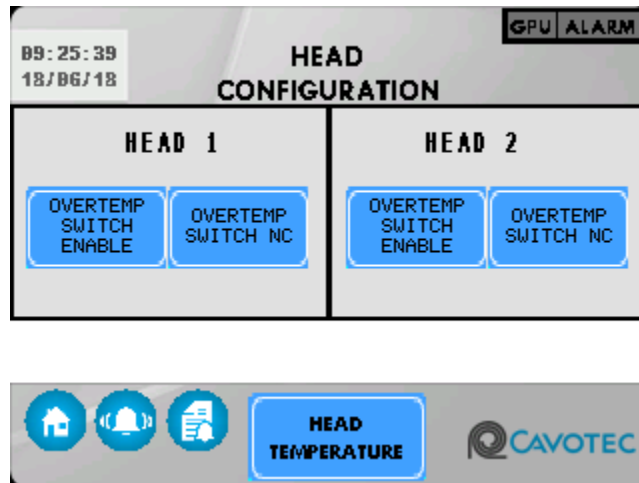
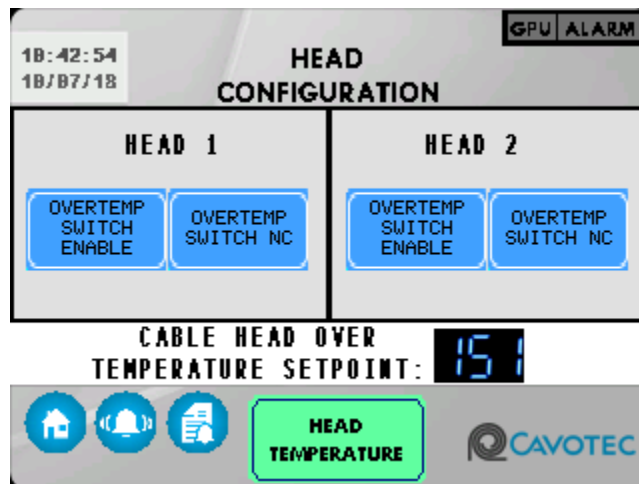

Figure 3-56. Cable Head Configuration Screen
Figure 3-57. Cable Head Configuration with Head Temperature Screen
The head configuration screen is shown in Figure 3-56. The switch configuration menu allows the user to configure the unit for an over temperature switch in the cable head. The over temperature switch can also be changed from normally closed (NC) to normally open (NO). Pressing the head temperature button allows the user to adjust the temperature at which the unit shuts down for a thermocouple as seen in Figure 3-57.